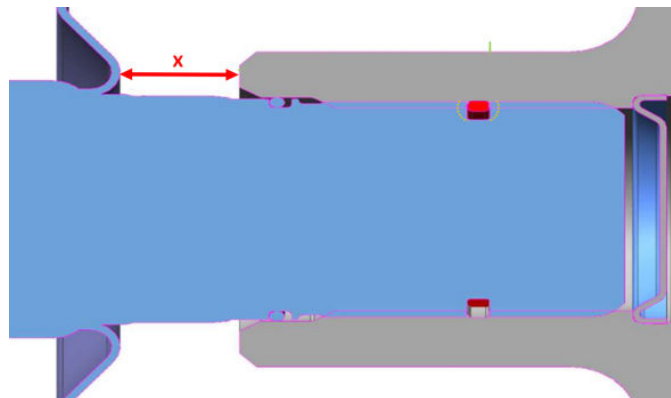

Fig. 1
- Using a 15mm (19/32 in.) gauge, check the gap between the **left** half shaft and the dust shield of the differential Fig. 1. Note the measurement.
- Using a 3mm (3/32 in.) gauge, check the gap between the **right** half shaft and the dust shield of the differential Fig. 1. Note the measurement.